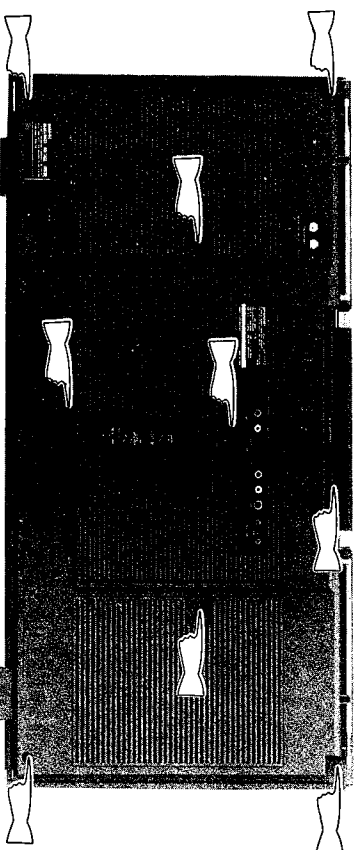

Figure 5-2
2. Remove nine screws at the front cabinet and back cabinet. See Fig. 5-2.